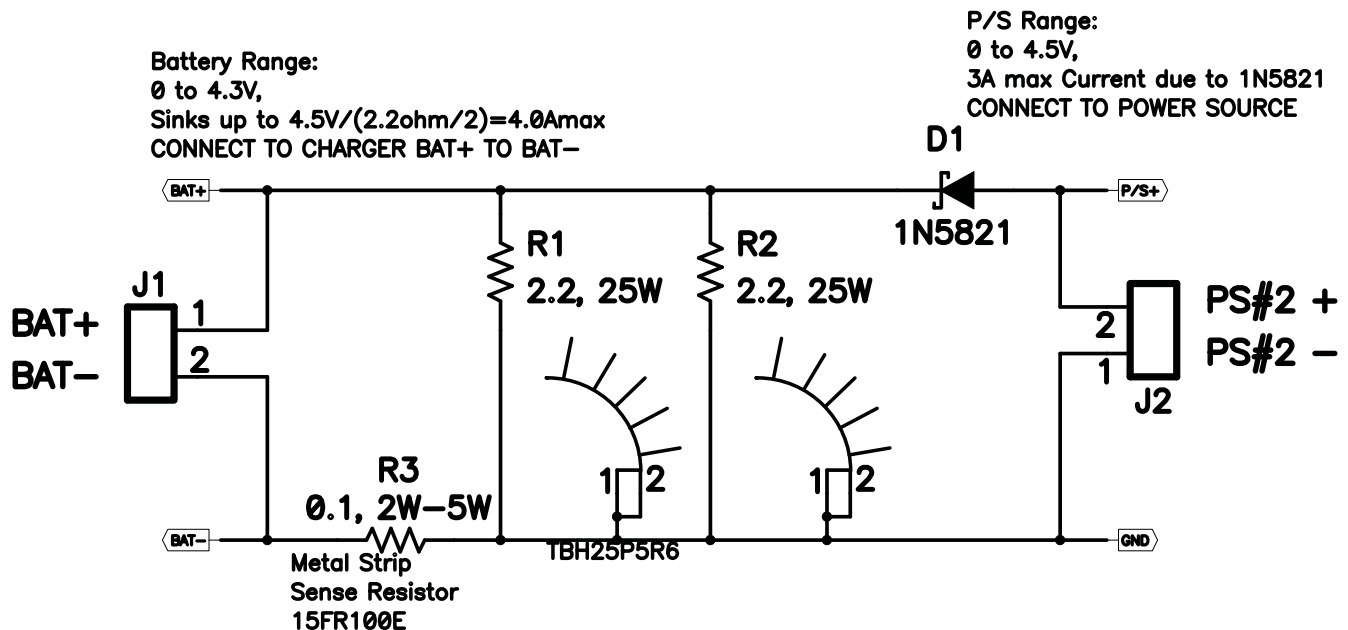

Figure 2. BAT\_Load (PR1010) Schematic
2. If not using a battery as the load, then power supply #2 (PS #2) capable of supplying up to 5 V at 5 A is required to power the circuit shown in Figure 2.
Testing with an actual battery is the best way to verify operation in the system. If a battery is not available, then a battery or circuit similar to the one shown in Figure 2 can simulate a battery when connected to a power supply.